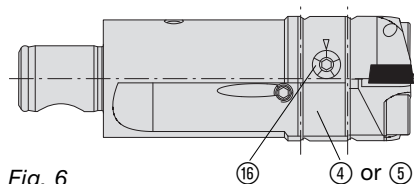

Fig. 6
**5.3 Flexible core drilling platform with function module centrally adjustable (ZV) (Fig. 6/7/8/9)**
1. Slacken the cheese-head screw ⑮ of the two holders and screw it in again lightly.
2. Set the cutting edge by turning the scale ⑮ (Fig. 6) to the diameter. One division on the scale corresponds to a diameter adjustment of 0.1 mm. Clockwise rotation increases the diameter.